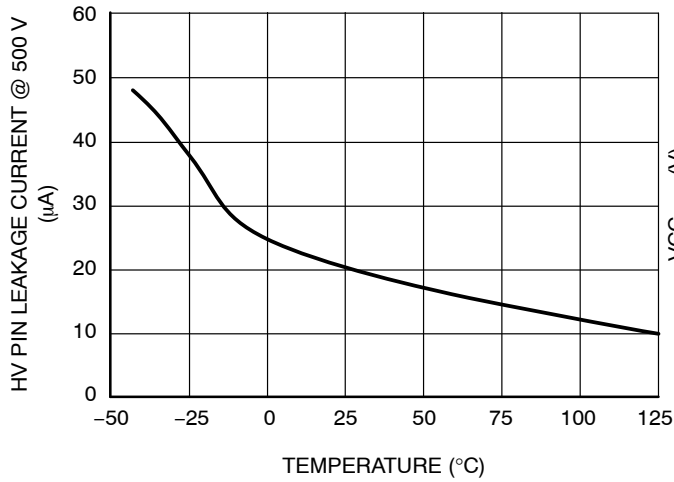

Figure 3. High Voltage Pin Leakage Current vs. Temperature
3. Implement Figure 3, from AN8069/D, Solution: This is another possible option to keep the DSS functionality (good short-circuit protection and EMI jittering) while driving any types of MOSFETs. This solution is recommended when the designer plans to use SOIC-8 controllers.